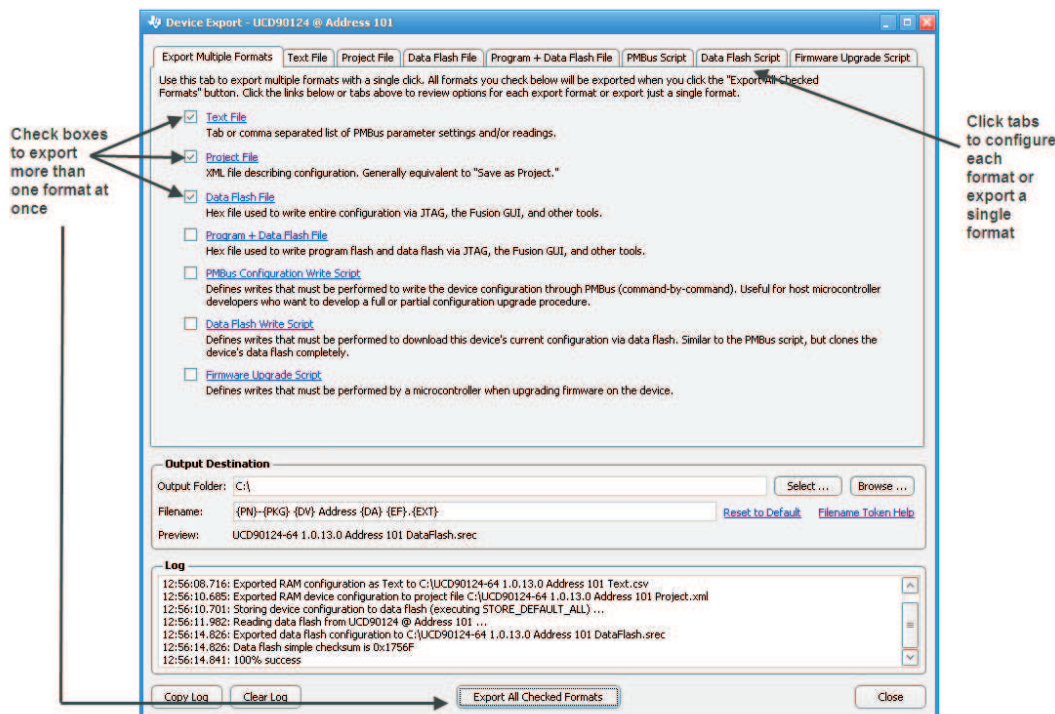

Figure 32. Fusion GUI Device Configuration Export Tool
3. Another in-circuit programming option is for the *Fusion GUI* to create a data flash image from the configuration file (Figure 32). The configuration files can be exported in Intel Hex, Serial Vector Format (SVF) and S-record. The image file can be downloaded into the device using I²C or JTAG. The *Fusion GUI* tools can be used on-board if the *Fusion GUI* can gain ownership of the target board I²C bus.